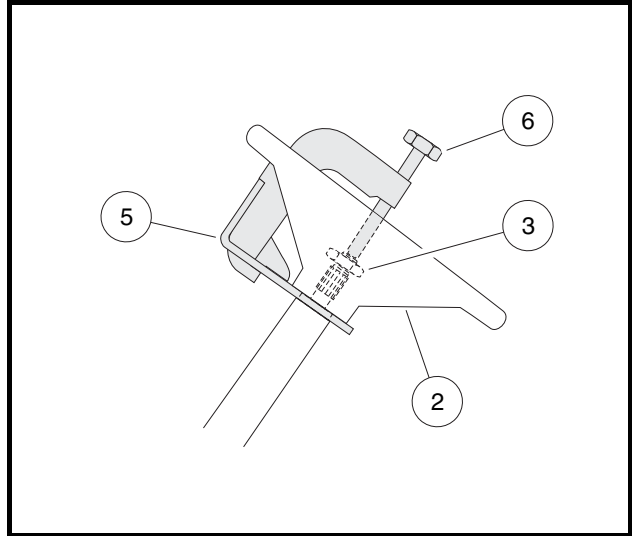

Figure 7-2 Steering Wheel Puller
- 5.3. Rotate the anvil screw (6) clockwise until the base plate contacts the bottom of the steering wheel where it attaches to the steering column **(Figure 7-2, Page 7-2)**.